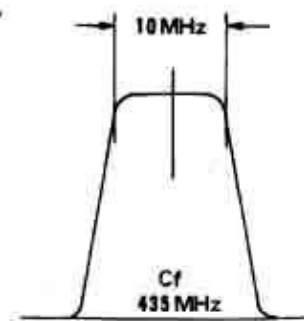

Figure 1
- Preset TC₁₀₀₁ for minimum capacitance, and adjust CV₁₀₀₁ and CV₁₀₀₂ to obtain the waveform of Figure 1 at maximum amplitude. TC₁₀₀₁ is readjusted in the next procedure.